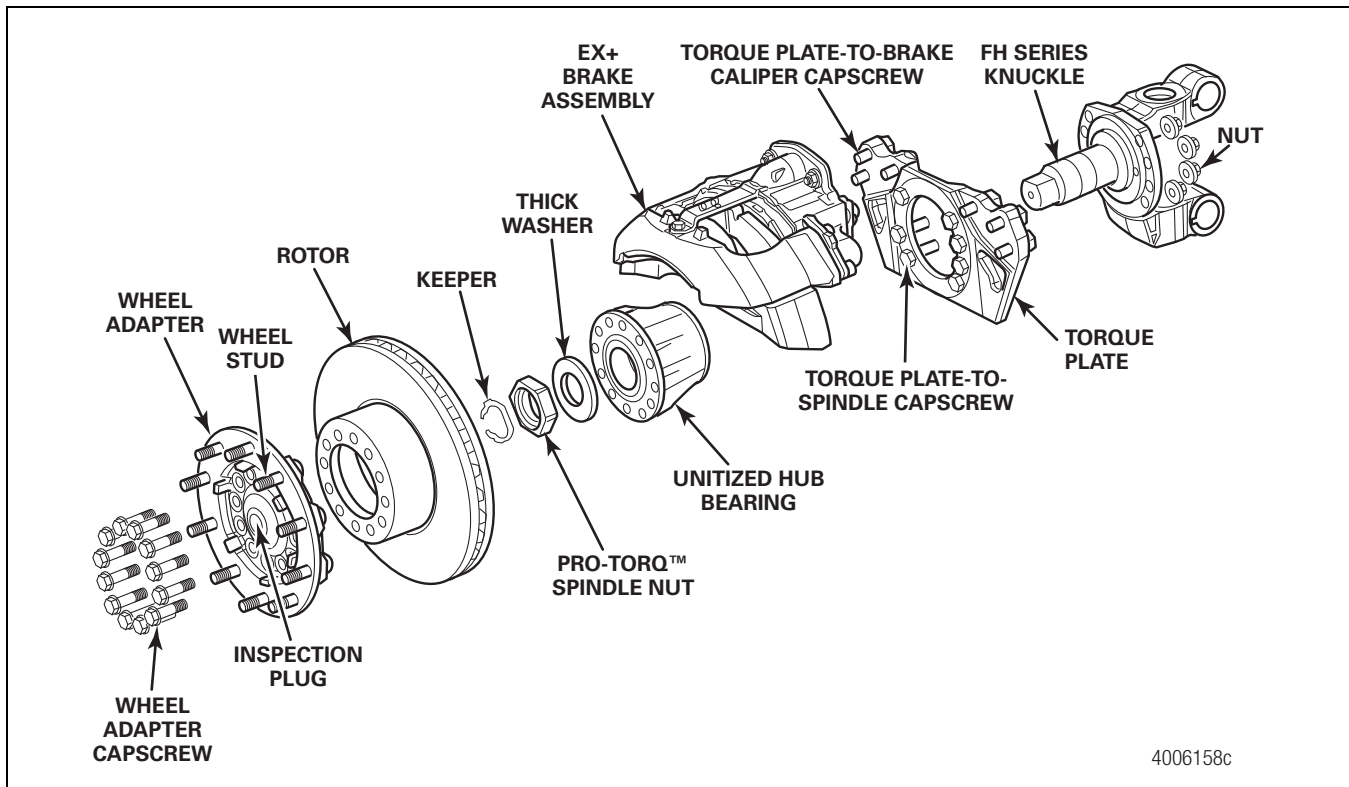

Figure 4.9
- Remove the wheel adapter and rotor. Inspect the rotor for cracks and signs of wear. Replace the rotor if necessary. Figure 4.9.